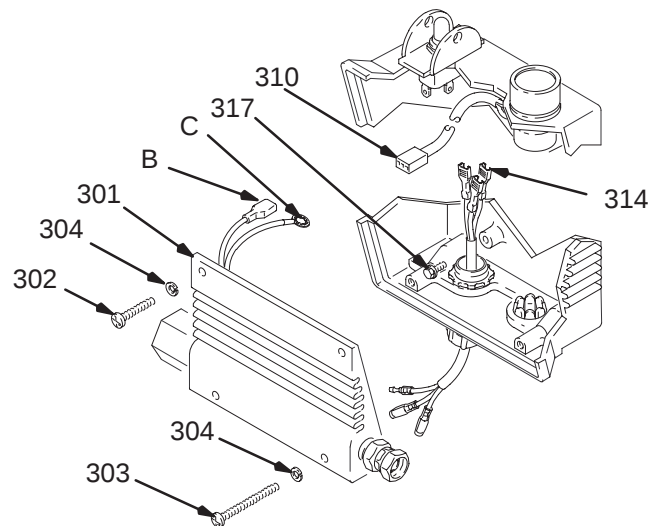

Fig. 20
3. Remove the four mounting screws and washers (302, 303, 304) from the pressure control cover (301). See Fig. 20.
4. Carefully remove the pressure control cover (301) so as not to stress the cables.
5. Disconnect the black and white wires of the pressure control cable (314) from the pressure control cover.
6. Disconnect the potentiometer cable assembly (310) from the pressure control cover.
7. Disconnect the red power lead (B) from the ON/OFF switch.
8. Loosen the ground terminal screw (317) and disconnect the ground lead (C).